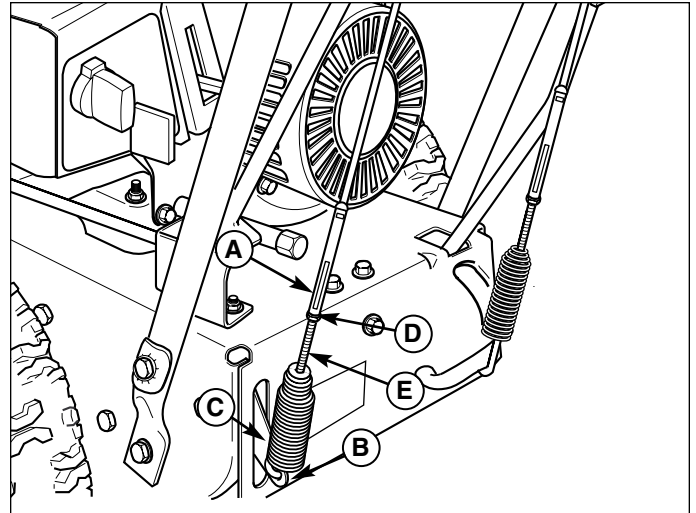

Figure 19. Traction Drive Adjustment
1. To adjust tension on the cable loosen adjustment hex nut (D, Figure 19) by holding the adjusting flats (A). Turn the adjustment screw. The adjustment screw is a phillips screw and the head can be held or turned by inserting a screwdriver through the traction drive clutch cable spring